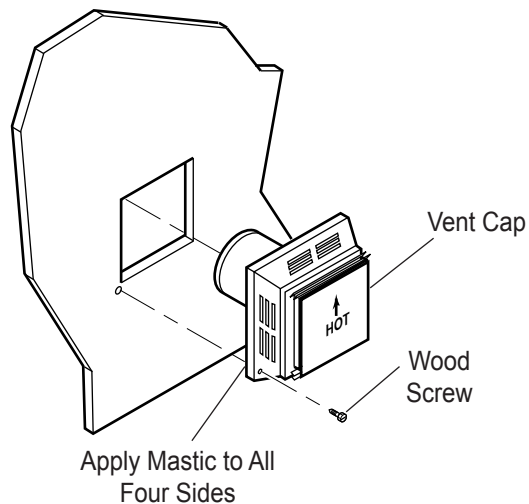

**Figure 12 - Vent Opening Requirements**
**Combustible Walls:** Cut a 9"H x 9" W (229mm x 229mm) hole through the exterior wall and frame as shown. See *Figure 12*.
3. Attach vent pipe assembly to the fireplace. Set fireplace in front of its permanent location to insure minimum clearances. Mark the wall for a 9"H x 9"W (229mm x 229mm) rectangle hole (for noncombustible material such as masonry block or concrete, a 7½" [190mm] diameter hole is acceptable). See *Figure 11*. The center of the hole should line up with the center line of the horizontal rigid vent pipe end. Be sure to allow for minimum rise. Cut a 9"x9" (229mm x 229mm) rectangle hole through combustible exterior wall (7½" [190mm] diameter hole if noncombustible). Frame as necessary. Allow ¼" minimum rise per foot. See *Figure 12*.
1. Establish vent hole through the wall. *See Figure 12, page 17.*